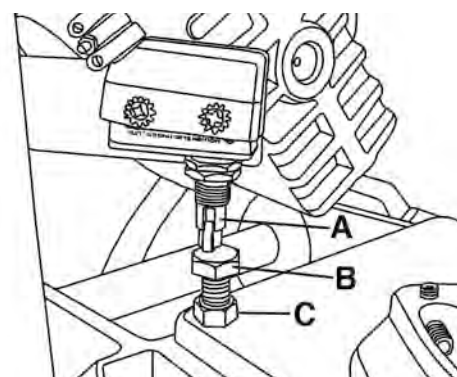

FIGURE 20
1. An automatic shut-off limit switch is provided to stop the motor when the cut is completed. The limit switch (A) Fig.20 comes into contact the top of the stop bolt (B) shutting off the motor and coolant pump.
2. If the motor stops before the cut is completed, or continues to run after the cut is completed, the height of the stop bolt (B) can be adjusted to make it contact earlier or later. Loosen the hex. nut (C), adjust the height of the stop bolt up or down, and make a test. Once this adjustment is done, retighten the stop bolt hex. nut.